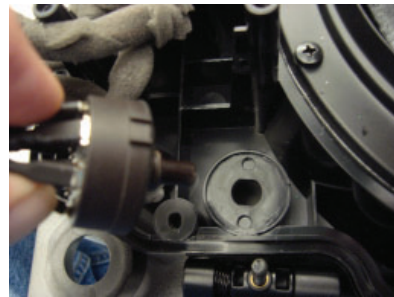

Figure 30
7.7 Figure 30, Lift out the switch.